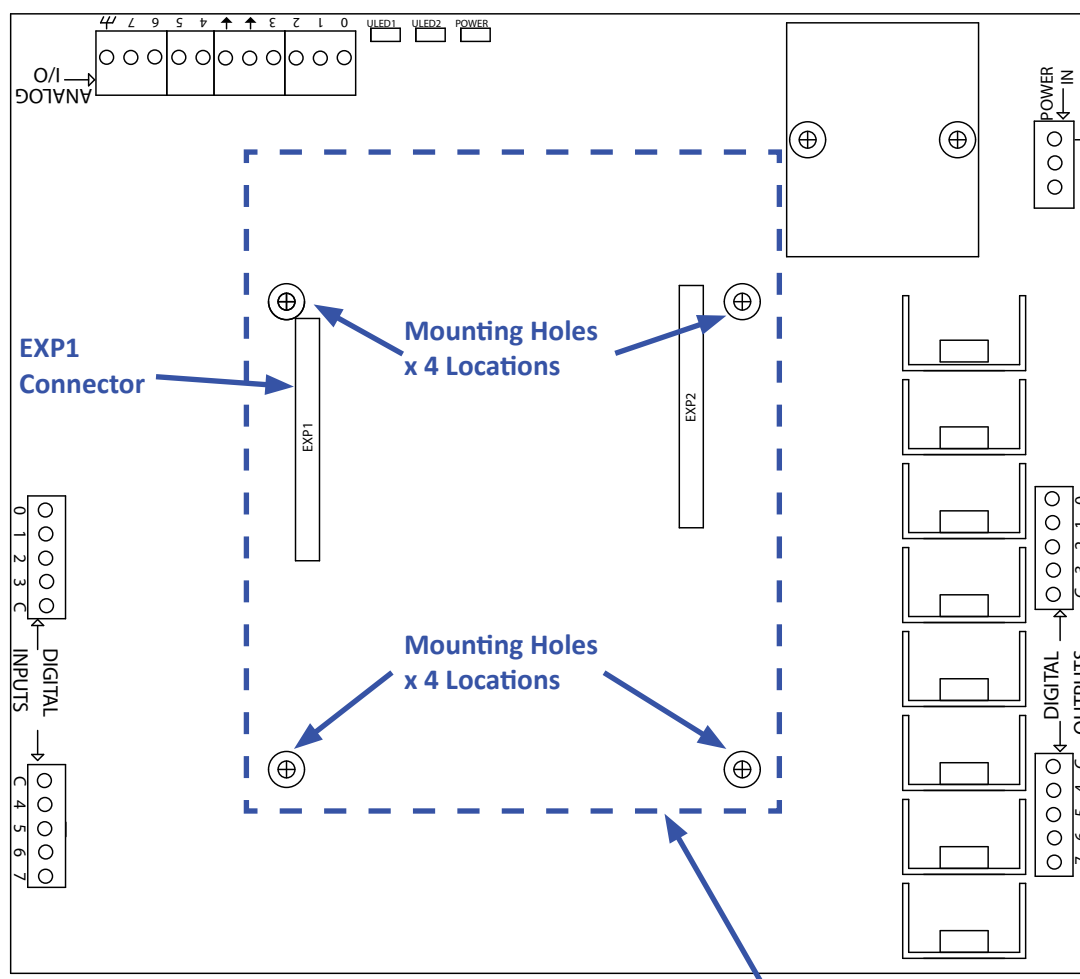

Figure 1-2 -Mounting Holes
1. Install the a stand-off (4-40x5/8") provided into each of the the P13 Bear Bones Controller's 4 mounting holes provided and secure using one star lockwasher and one 4-40 nut provided. See Figure 1-2 for mounting hole locations. The male end of the stand-off should be installed through the P13 Series Bear Bones Controller from the top side with the lockwasher and nut installed on the back side.